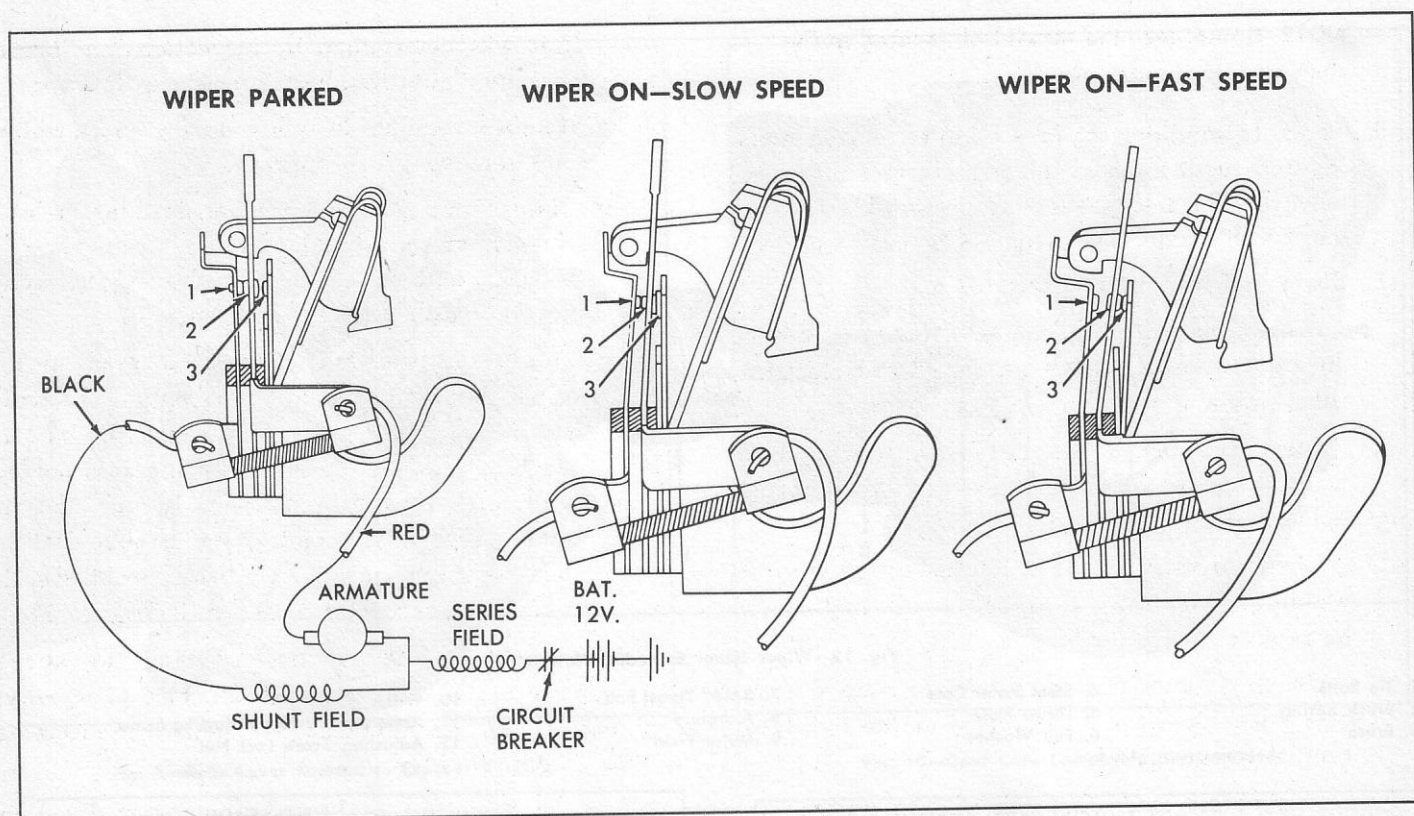

Fig. 15—Wiper Low, High and Park Schematic Diagrams
Refer to Figure 15 for schematic diagrams of the three position switch.
5. Contacts 2 and 3 dirty or not making contact when unit is turned on.	5. Bend contact 3 slightly so that it will make contact with contact No. 2. (Be sure switch is tripped to low or high speed position when doing this.) (Figure 15)